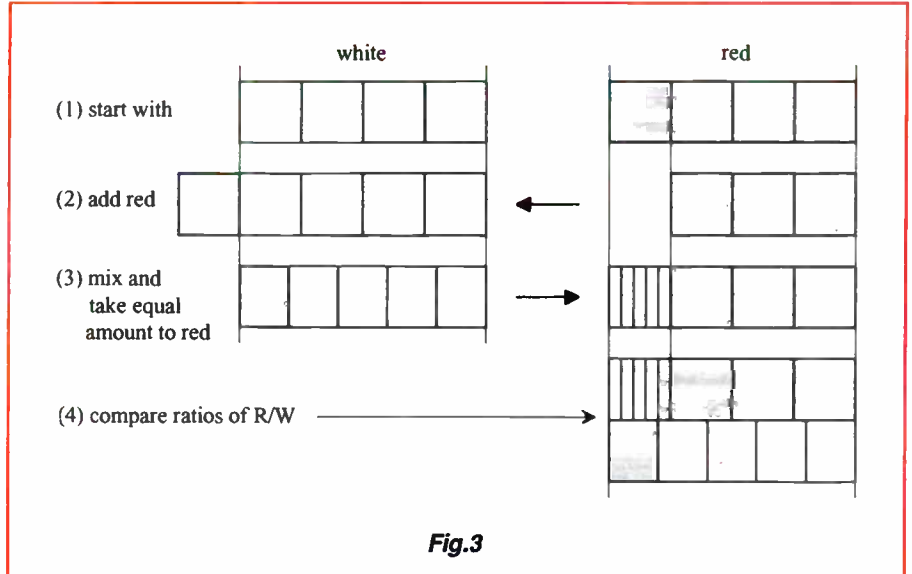

Fig.3
In case you're not convinced, Fig.3 shows a graphical approach. In this diagram, a quarter of the red paint is initially mixed with the white as shown in (2). After mixing, the same amount (1/4 litre) is taken back to the white, leaving the same quantities in both tins. As you can see, the final result shows the ratio of the colours in both tins to be the same. ♦